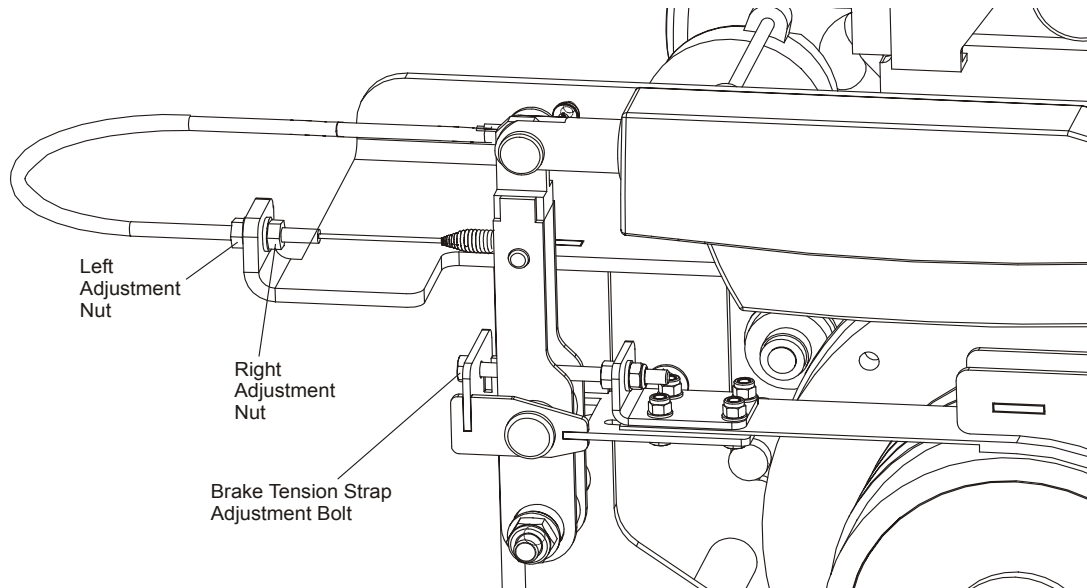

FIG. 2-5
**See Figure 2-5.** Use the adjustments shown below to adjust the engine RPM (3000[+0,